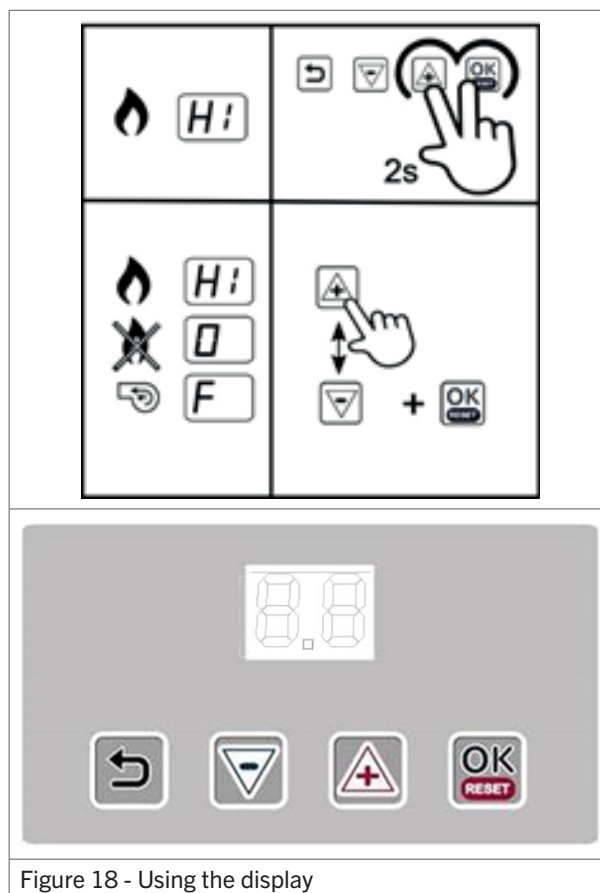

Figure 18 - Using the display
1. Press and hold the **Return** and (–) button for a few seconds (figure 18). The display will alternate between Lo and St. This means the heater will start up in Low fire.
2. Press the (+) and (–) buttons to toggle between Low and High fire (figure 18).